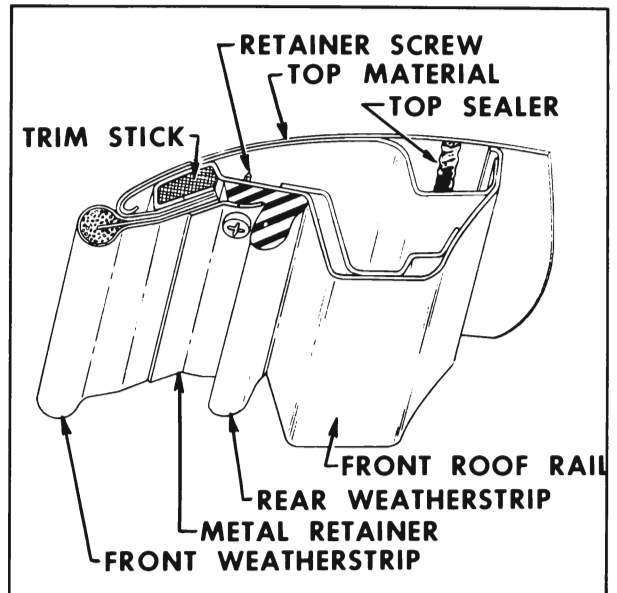

Figure 7-21—Front Roof Rail
3. At front of body, raise front roof rail, remove retainers and front weatherstrips and detach top material from front roof rail (see Figure 7-21).
29. Apply bead of convertible top sealer to inner lining of top material along front roof rail. Sealer bead should be roughly parallel with forward edge of top material and located so that sealer will be completely concealed by front roof rail when top is installed (see Figure 7-21).